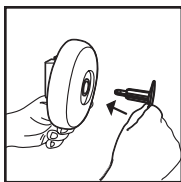

FIGURE 9
12. Insert wheel plug through wheel and axle housing turning wheel plug until it seats flush with outside of wheel. **FIGURE 9.**